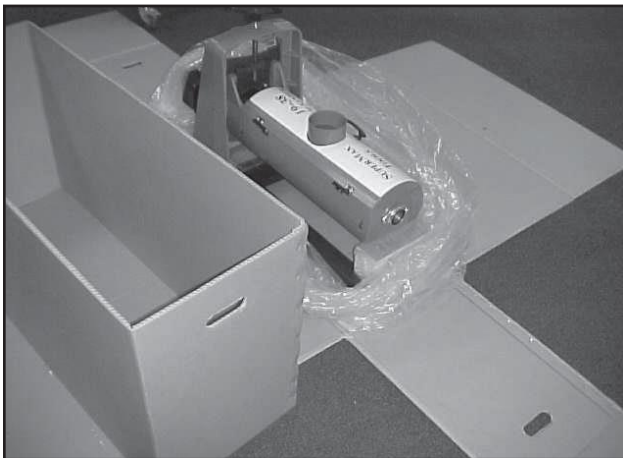

Fig. 2 Open plastic, remove liner, cut box
3. Cut each corner of Box 1 to fold sides flat, providing access to sanding unit. (Fig 2)
6. Install knob to height adjustment handle, finger tighten nut to knob. Thread stud from knob into hand wheel (Fig 2). Tighten nut against handwheel.